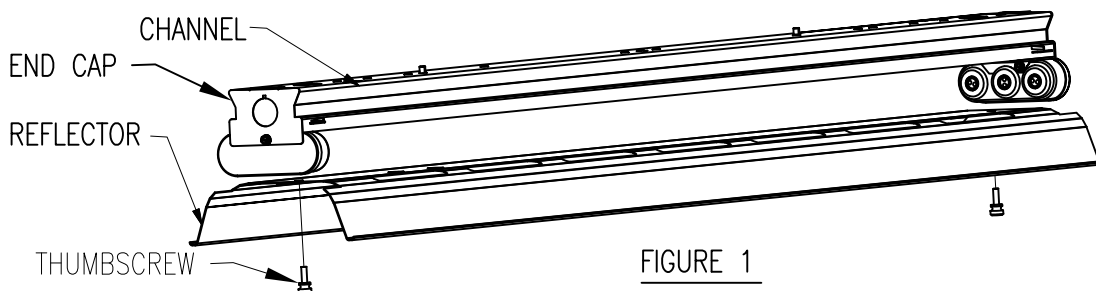

FIGURE 1
- 1) REMOVE REFLECTOR BY REMOVING 2 THUMBSCREWS. SEE FIGURE 1.